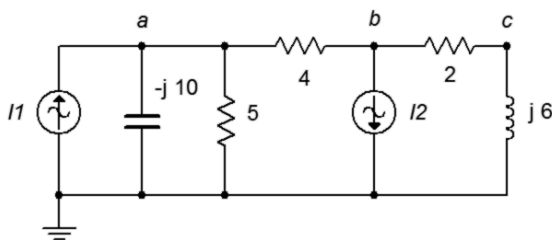

Figure 6.18
35. Use nodal analysis to find the current through the $4\ \Omega$ resistor in the circuit of Figure 6.18.
36. Given the circuit in Figure 6.18, use nodal analysis to determine v_c . $I_1 = 6\angle 30^\circ$, $I_2 = 4\angle 0^\circ$.